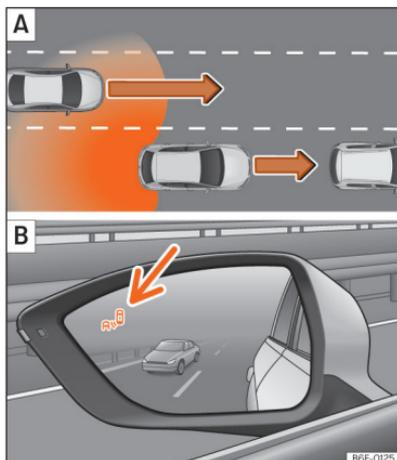
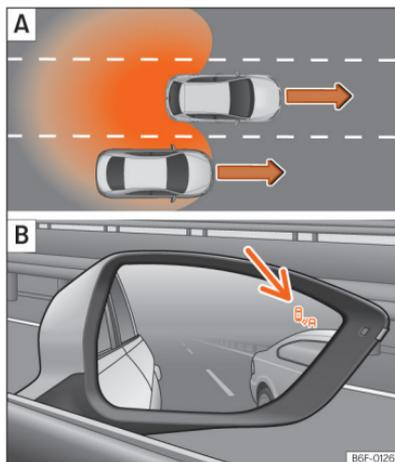

Fig. 115 Schematic diagram: **A** Overtaking with traffic behind the vehicle. **B** Side Assist indication on the left hand side.
Fig. 116 Schematic diagram: **A** Overtaking in the central lane and then joining the right lane. **B** Side Assist indication on the right hand side.
In the following situations, an indication will be displayed in the control lamp >>> Fig. 115 **B** (arrow) or >>> Fig. 116 **B** (arrow):
- When being overtaken by another vehicle >>> Fig. 115 **A**.
- When passing another vehicle >>> Fig. 116 **A** with a speed differential of approx. 10 km/h (6 mph). If the vehicle is passing at a considerably higher speed, no indication will be displayed.